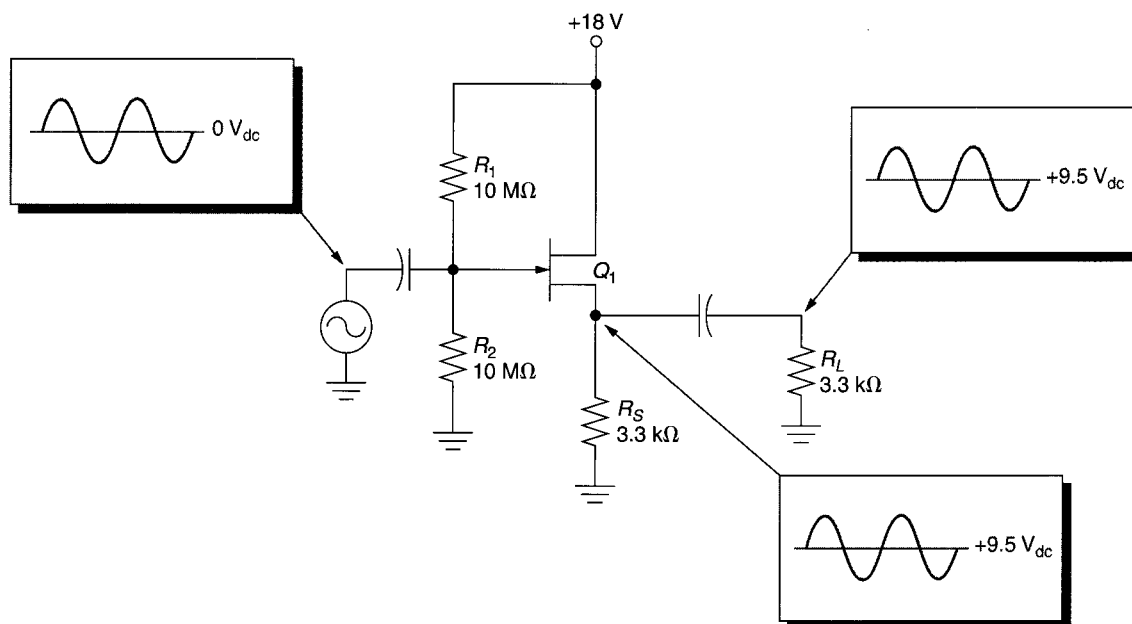

FIGURE 12.73
47. The circuit shown in Figure 12.73 has the waveforms shown. Discuss the possible causes of the problem.